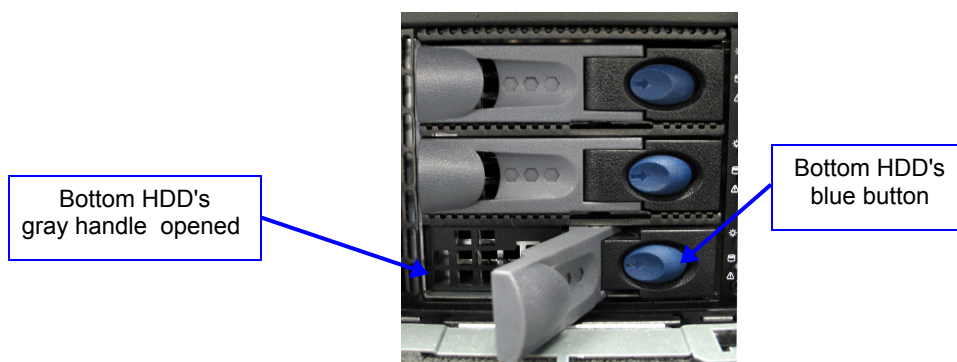

Figure 36: DCP-2000 HDD Bottom Grey Handle Opened
- Press on the HDD blue button and open the gray handle all the way (Figure 36).